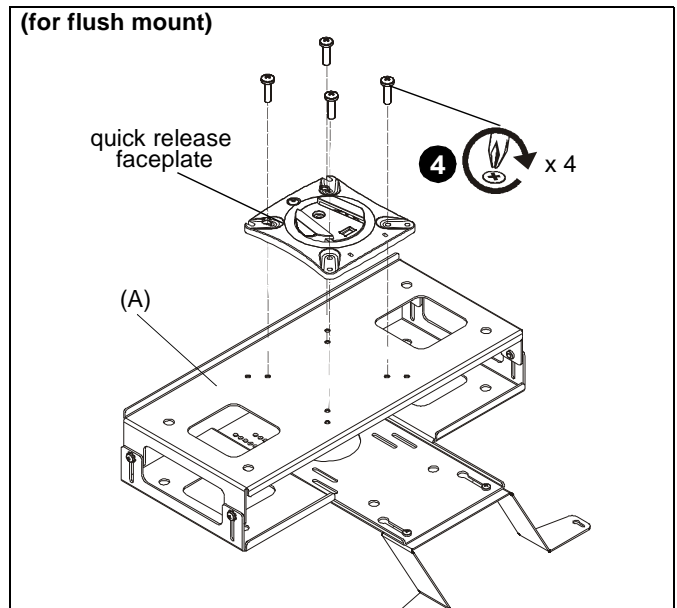

Figure 4
4. Using Phillips screwdriver, carefully install four M4x14mm screws (from K1W120 mount) through corresponding holes on faceplate and into the mounting holes on the back of interface bracket (A). (See Figure 4)